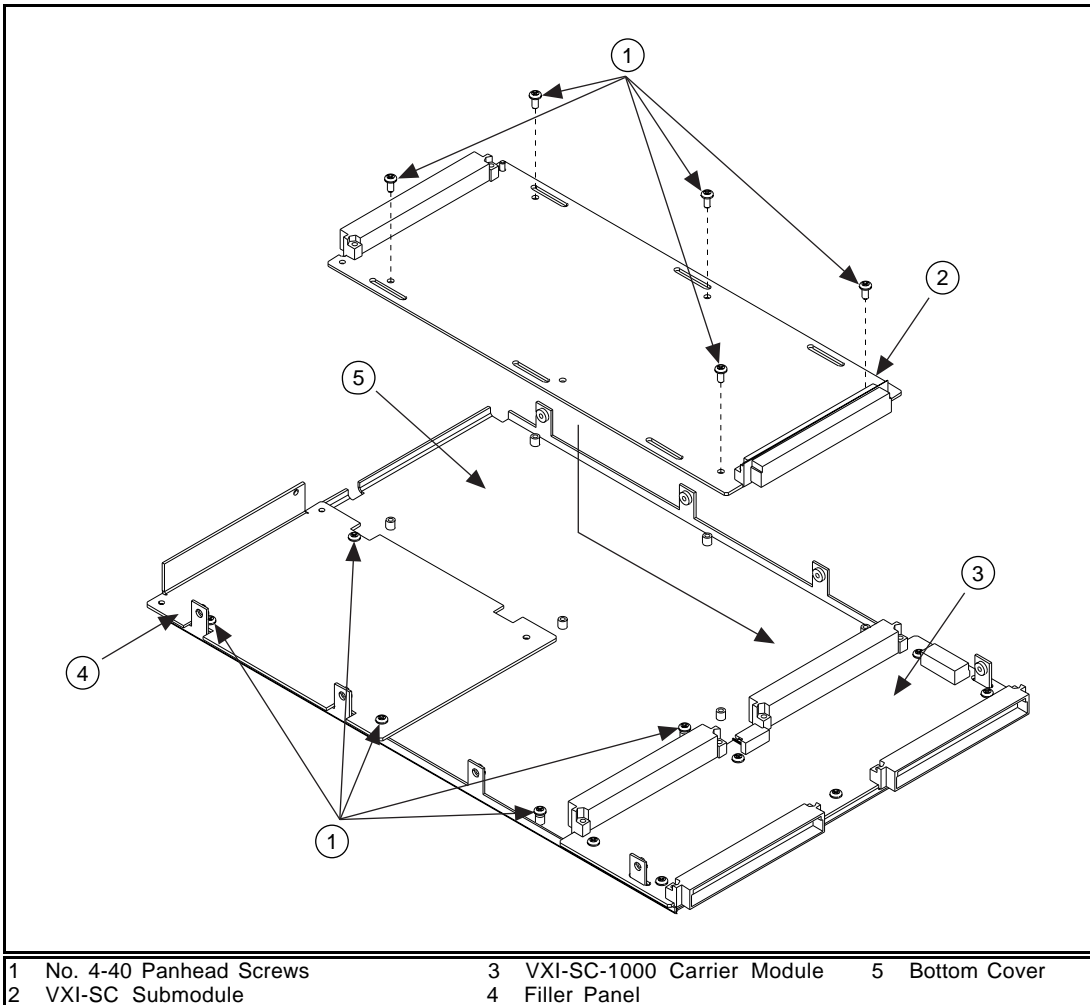

Figure 5. Installing a VXI-SC Submodule
3. To install your VXI-SC submodule, insert the submodule into the carrier and firmly slide it into place, fully seating the connector. Remove five of the No. 4-40 panhead screws from your hardware kit and use them to secure the VXI-SC submodule to the carrier module. See Figure 5, item 1.
If you are installing a second submodule, remove the filler panel (Figure 5, item 4) by removing the three mounting screws (item 1). Remove the two extra mounting screws that are already installed. Use these five screws to install the second submodule.
Refer to Steps 3–6 and Figures 5–8 in reverse order to replace either the filler panel or an existing VXI-SC submodule with a new VXI-SC submodule. All necessary hardware items should already be installed in your VXI-SC-1000 carrier module.